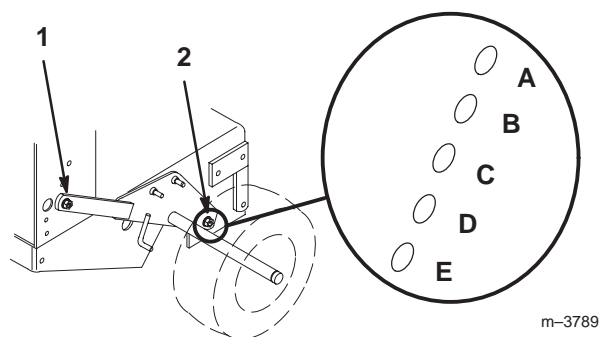

Figure 22
2. Loosen but do not remove the 2 axle pivot bolts and the 2 axle adjustment bolts (Fig. 22).
3. Place a jack under the rear center of the engine frame. Raise the back end of the engine frame up enough to remove front 2 axle adjustment bolts (Fig. 22).
4. Raise or lower the engine frame with the jack, so that front 2 axle adjustment bolts can be installed in the desired hole location (Fig. 22). A tapered punch can be used to help align the holes.